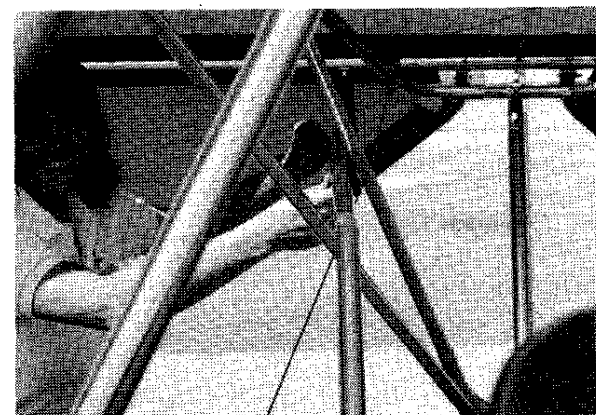

Figure 2.56
63. Continue to route tube inside tail brace, outside of rudder brace and above lower tail wire to align with elevator horn. **Figure 2.56**